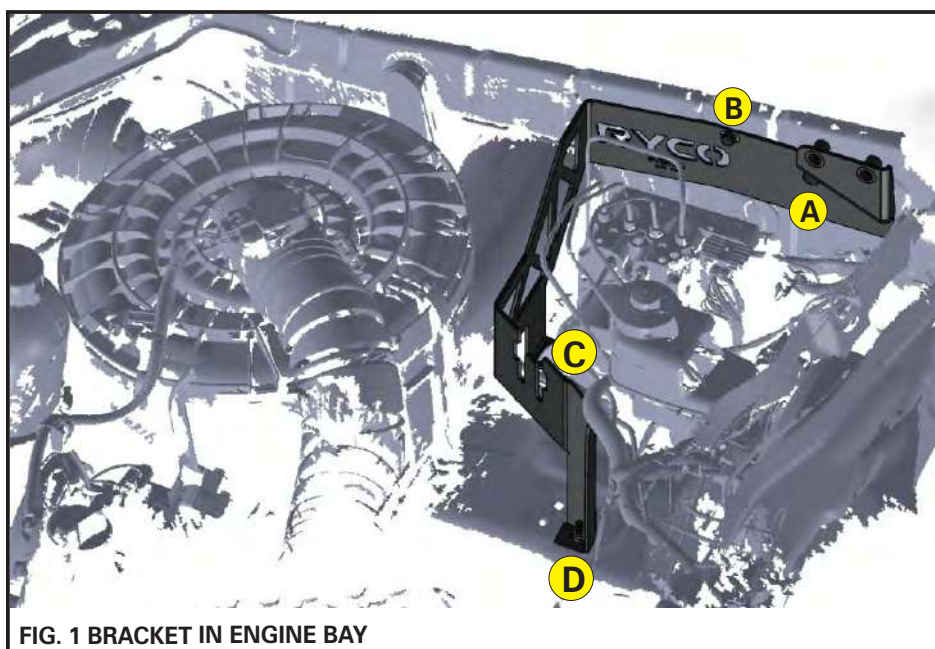
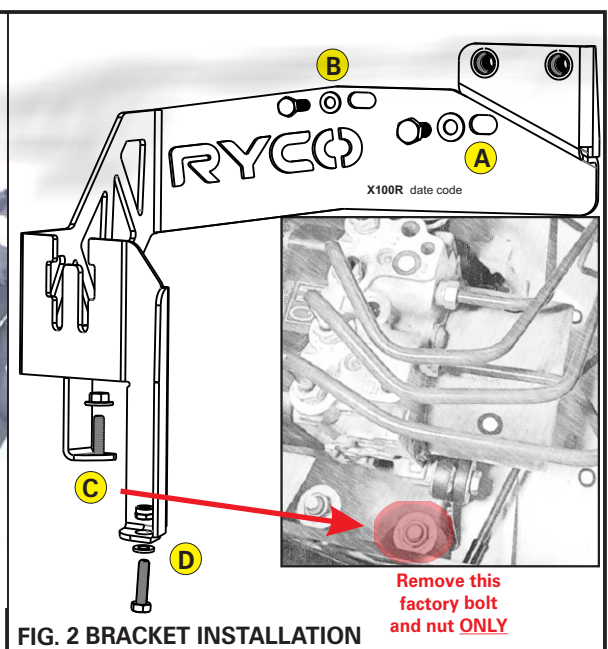

FIG. 1 BRACKET IN ENGINE BAY
FIG. 2 BRACKET INSTALLATION
- In Fig. 2, locate the factory nut and washer that mounts the factory ABS module (Note: Only remove the one closer to the engine as highlighted), between the air box and brake fluid reservoir. Position the bracket in the engine bay as per Fig. 1, engaging Point **C** on the bracket onto the stud and loosely refit the factory nut and washer back onto the stud.
- Tighten all fasteners as per Fig. 2.